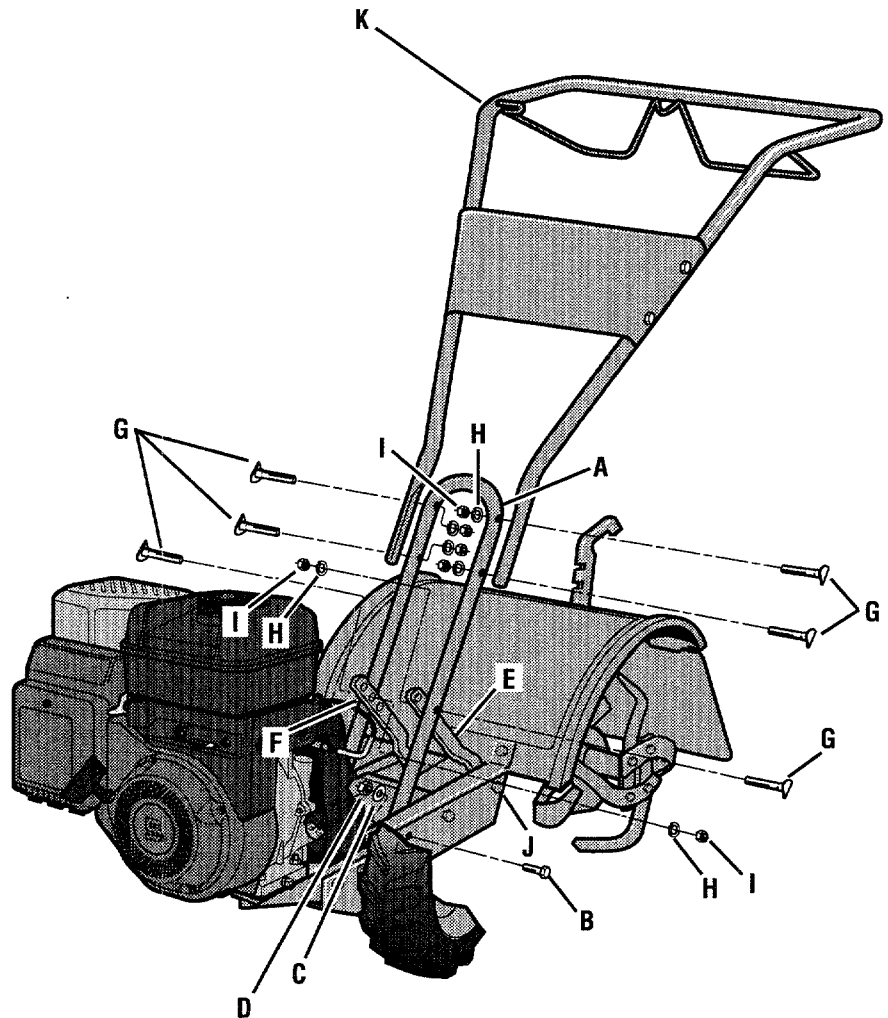

Fig. 2-2: Attach handlebar (5.5HP Model shown).
1	Handlebar Support (see A, Fig. 2-2, page 7)
1	Handlebar Assembly (see K, Fig. 2-2)
1. Loosely attach the two legs of the handlebar support (A, Fig. 2-2) to the inner sides of the tiller frame using two 3/8"-16 x 3/4" hex hd. screws (B), 3/8" flat washers (C) and 3/8"-16 hex locknuts (D).
2. There are three height adjustment holes in the two handlebar support brackets (E and F, Fig. 2-2). Choose a setting that will position the handlebars at approximately waist level when the tines are 3"-4" into the soil. Loosely attach the support brackets to the handlebar support (A) using two 5/16"-18 x 1-1/2" screws (G), 5/16" split lockwashers (H) and 5/16"-18 hex nuts (I). NOTE: If a support bracket will not move, loosen attaching screw (J) and nut.
3. Attach the handlebar assembly (K) to the handlebar support (A) using four 5/16"-18 x 1-1/2" screws (G), 5/16" split lockwashers (H) and 5/16"-18 hex nuts (I). Tighten the four screws securely.